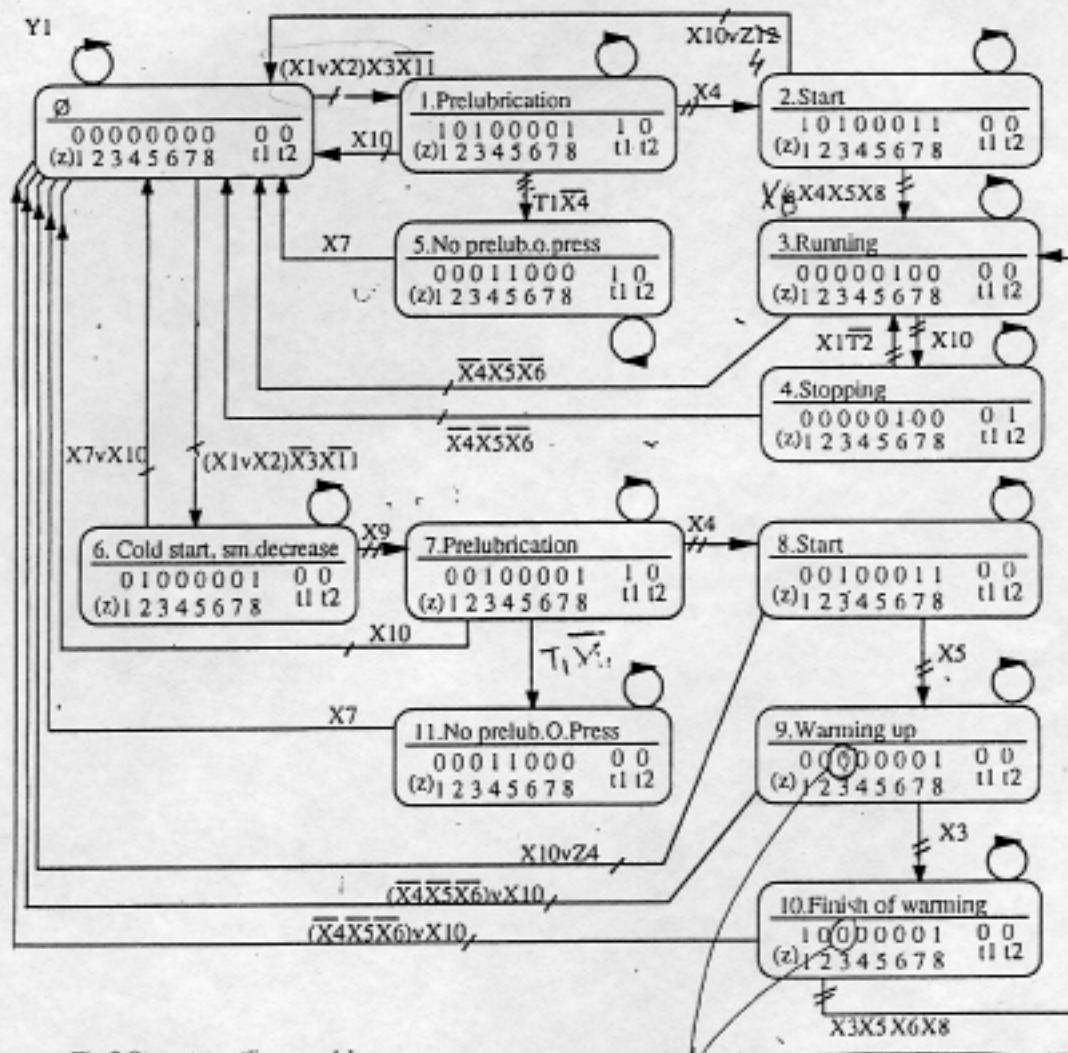

Fig.2 Start status diagram A1
**5.2 Start status diagram A1, Fig.2:**